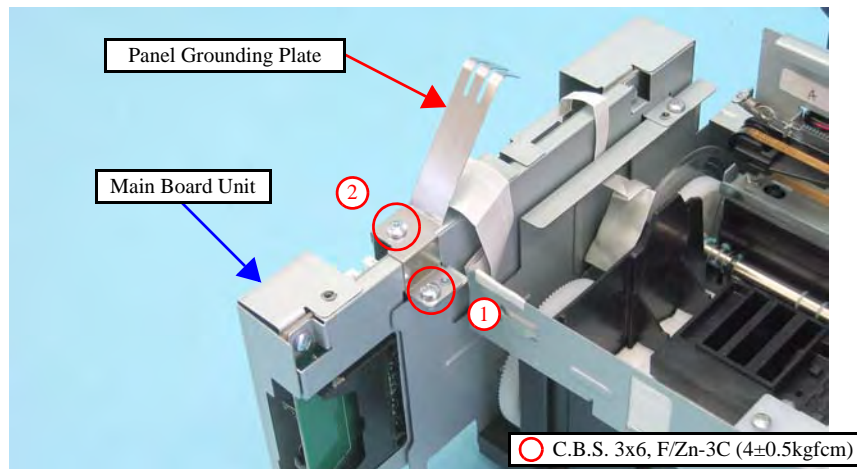

Figure 4-14. Removing the Panel Grounding Plate
- Tighten the screws in the order given in Figure 4-14.